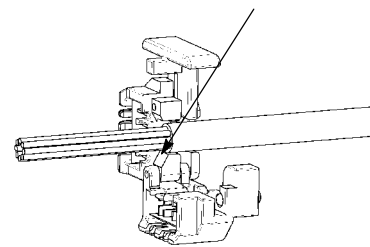

Figure 6
10. Open the lacing fixture and insert the cable until the cable jacket is aligned with the shelf. See Figure 6.